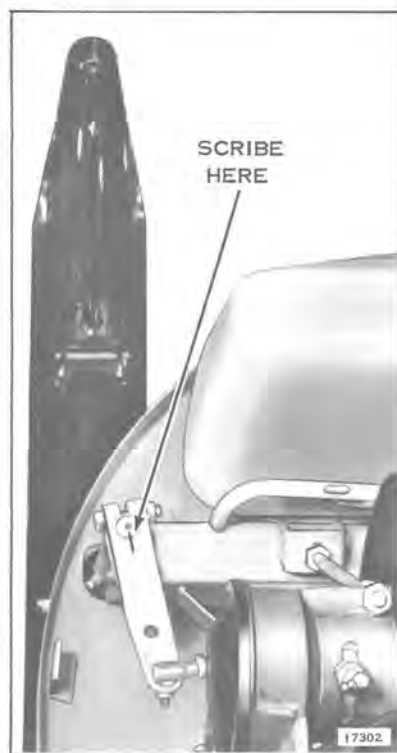

Figure 11-1
2. Scribe ski column and steering arm to maintain original position for reassembly of skis. See Figure 11-1.